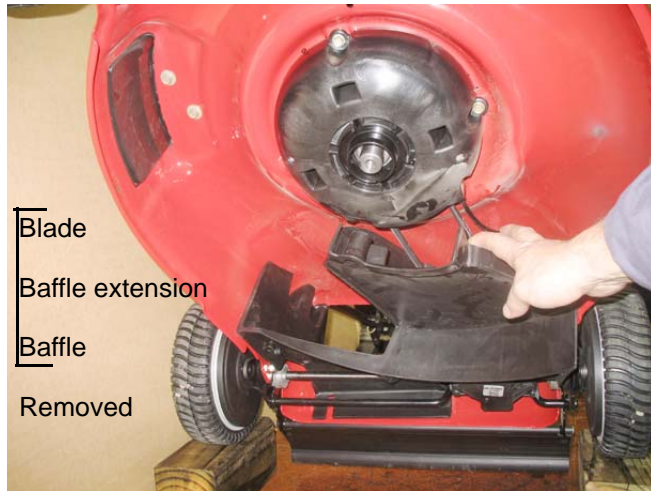

Figure 6.1
- 1a. Remove the baffle as described in Chapter 4: Drive belt and baffles. See Figure 6.1.